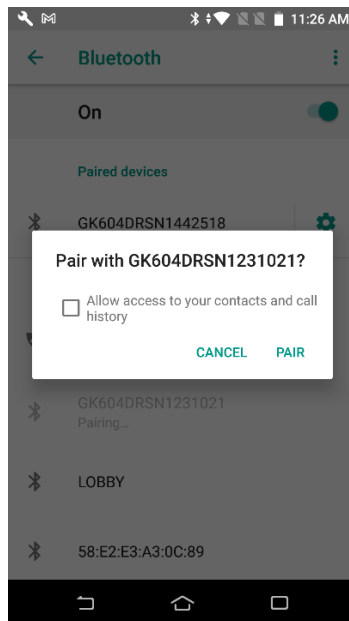

Figure 14: Pairing Confirmation
- 3) If your Remote Module pre-dates January 2020, then a prompt will be displayed for a password, enter “default” at the prompt and the pairing should be complete. If the password is rejected, try “1234”. With new Remote Modules, no password is necessary, but a confirmation dialog will be displayed (see Figure 14). Tap “PAIR” to finish pairing the Remote Module to the Android device.